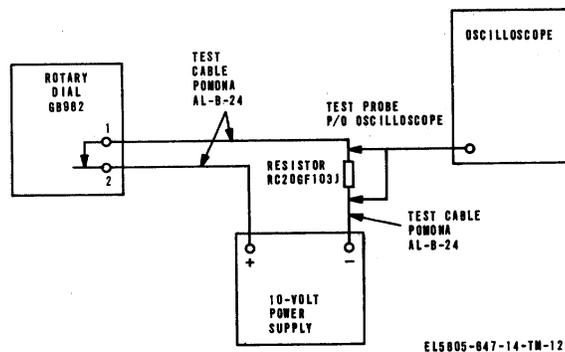

Figure 6-27. Rotary Dial GB982, performance-test setup diagram.
(1) Connect the test equipment as shown in figure 6-27.
(2) Adjust the power supply for 10 vdc.
(3) Adjust the trigger control of the oscilloscope so that the sweep starts at the beginning of the first break pulse from the dial and adjust the time base so that the tenth pulse from the dial occurs just before the end of the horizontal sweep period.
(4) Dial digit 0; repeat as necessary. From the oscilloscope, calculate the rate of the pulses. The pulse rate must be between 9 and 11 pulses per second.
(5) Dial a digit to provide a pulses train on the oscilloscope; repeat as necessary. Adjust the time base of the oscilloscope so that the pulse break period can conveniently be measured. The pulse break period must be 65.5 ± 4 percent of one pulse duration.
(6) Turn off and disconnect the test equipment.